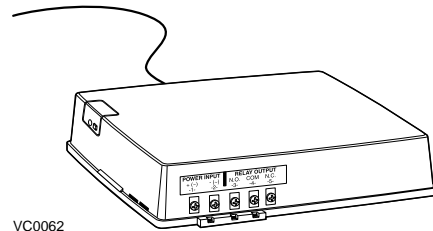

figure 19
- 1- Determine the location of the receiver illustrated in figure 19.